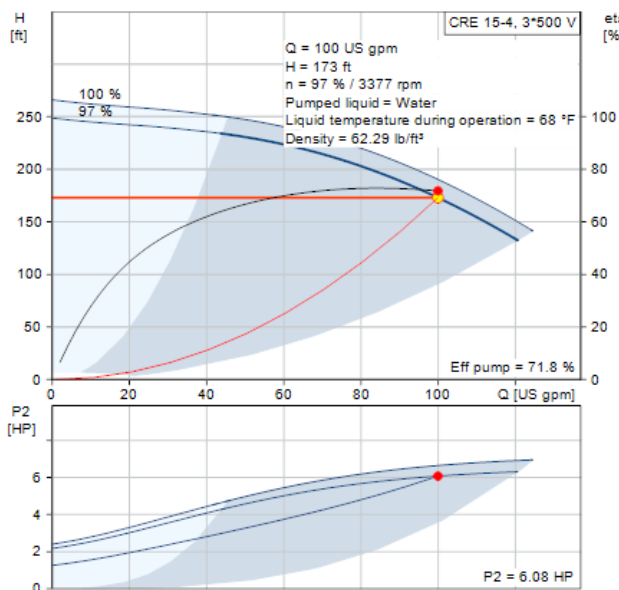
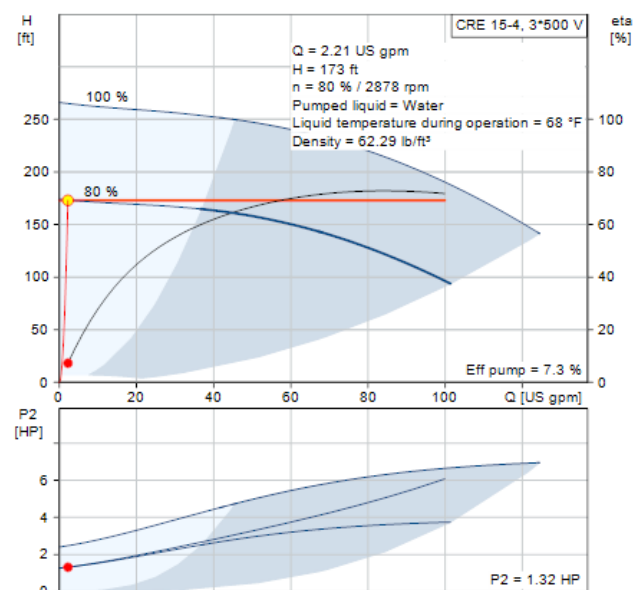

Figure 1: Pump performance at design flow
Figure 2: Pump performance at 2 gpm
To better illustrate this, consider the pump performance curve shown in **Figure 1**. The nominal performance for this pump is 90 gallons per minute at a total head of 206 feet. This pump would typically be supplied with a 7.5 horsepower motor. It is not uncommon to see a duplex or triplex variable speed booster system with individual pumps in this capacity range. Let's say the design requirements are 200 gpm at 80 psi boost (173 feet of head), where a duplex system has been selected (each pump rated at 100 gpm/173 feet). If this pump system were to supply water to an office, multi-use or an apartment building, there would definitely be periods of very low flow, including zero flow conditions. **Figure 2** shows the pump performance at just over 2 gallons per minute. At this flow rate, the variable speed controller will reduce the pump speed to 80% (2878 rpm) to maintain the required boost pressure of 80 psi. At this low flow, the power required is only 1.3 brake horsepower which is only 17% of the motors rated power. The pump efficiency however, is only 7.3%, as compared to the efficiency at design conditions of nearly 72%.
What will not be obvious to the building owners is the added electrical cost of running a pump when it could indeed be switched off. What is the consequence of letting a pump run continuously at 2 gallons per minute? In **Figure 2**, the brake horsepower consumed by the pump at 2 gallons per minute is 1.32 which equates to about 1.45 kilowatts of electricity (*assuming modern motor and drive technology is being used*). If this pump averaged 10 hours per day at this flow rate, the annual energy cost at 2 gpm would be \$631 (*at 12 cents per kilowatt-hour*). If a low flow shut-down sequence was used along with a diaphragm tank (25-35 gallon nominal capacity), this low flow energy cost could be reduced by over two thirds. The ability to periodically stop the pump would reduce the annual energy cost to approximately \$210. **This results in an annual savings of \$421, and after 5 years a savings of \$2,105. This will easily pay for the initial cost of the diaphragm tank, not to mention the prolonged life of the shaft seals in the pumps.**
- Pump from Figure 2